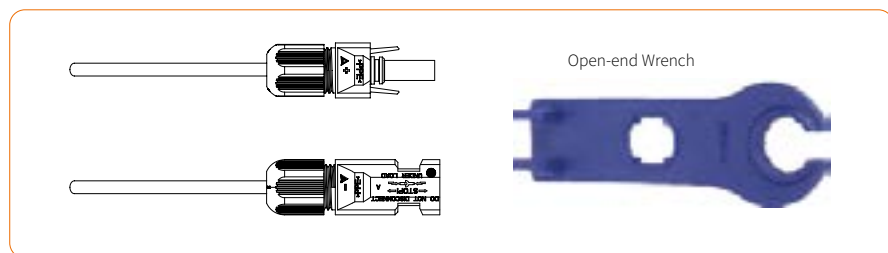

Figure 4-13
- ⑤ Insert the positive and negative cables into the corresponding positive and negative connectors, pull back the DC cable to ensure that the terminal is tightly attached in the connector.
- ⑥ Use an open-end wrench to screw the nut to the end to ensure that the terminal is well sealed, as shown in Figure 4-13: